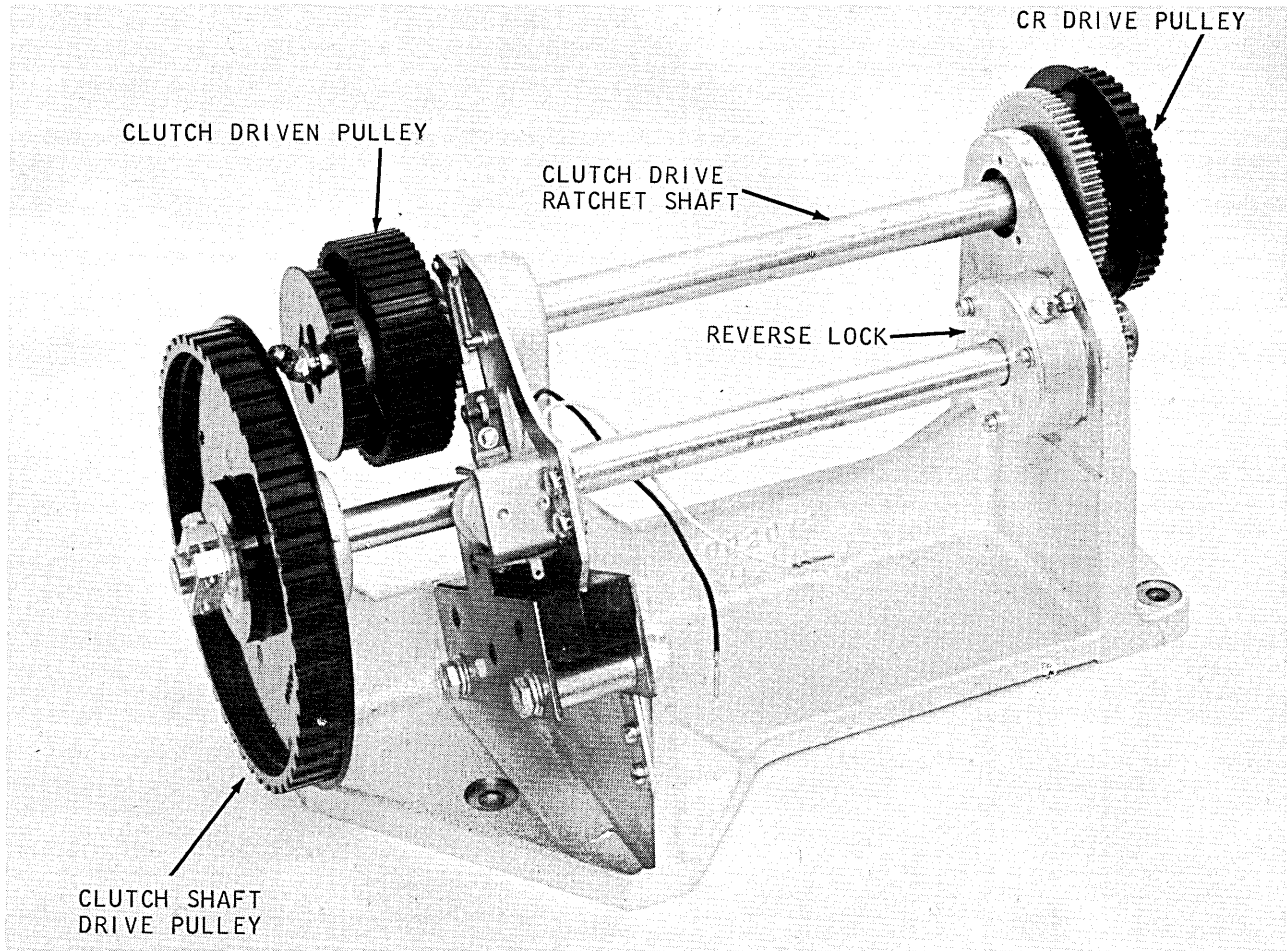

Figure 7. Clutch Assembly
### Primary Clutch Drive Removal (Figure 7)
6. Mark clutch drive pulley-to-shaft relationship drive (Figure 7); slide pulley out so clutch-driven pulley will clear end of ratchet shaft.